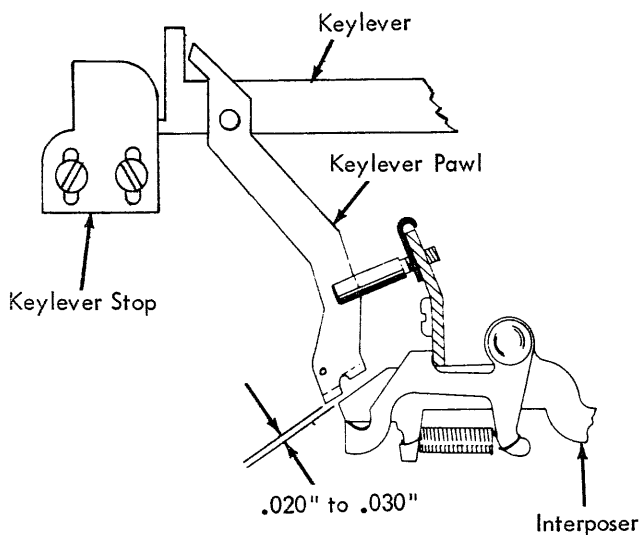

FIGURE 113. Keylever Pawl To Interposer Clearance
- b. Position the keylever stop so that all keylevers clear their interposer $.020"$ to $.030"$ (Fig. 113).